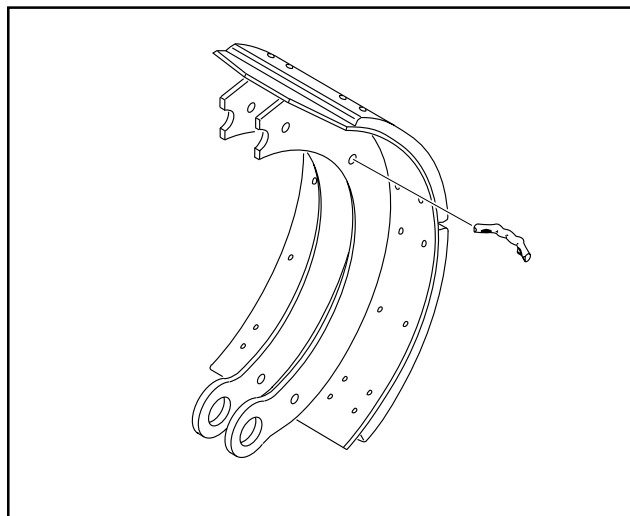

Figure 14
1. Install new return spring pins. **See Figure 14.**